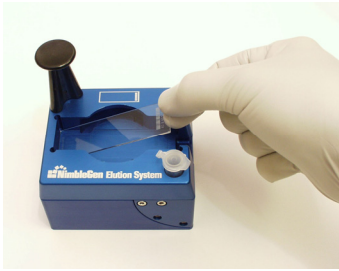

Figure 7: Placing a Slide into the Elution System
2. Wipe the *back* side of the slide with a clean tissue (the *front* side of the slide is the side on which you can read the barcode numbers in the correct orientation). Place the slide *front* side up within the Elution System at room temperature (Figure 7).